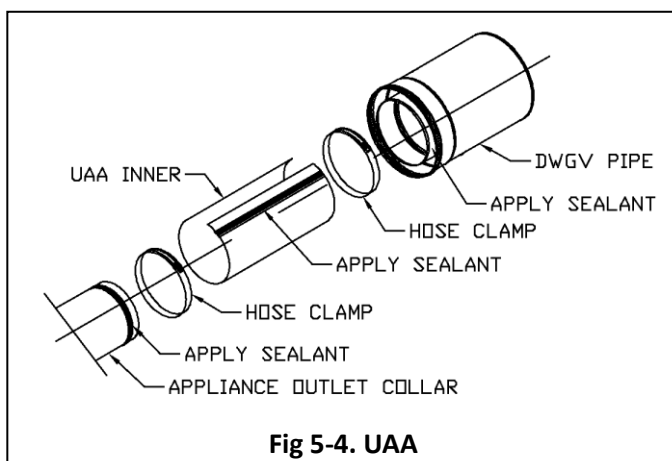

Fig 5-4. UAA
1. Align the CK pipe with the appliance outlet (See Fig. 5-4)
3. Wrap the UAA inner liner around the outside surface of the flue outlet and CK inner. The seam of the UAA should overlap and be sealed with sealant from step 2c. (See Fig. 5-4)